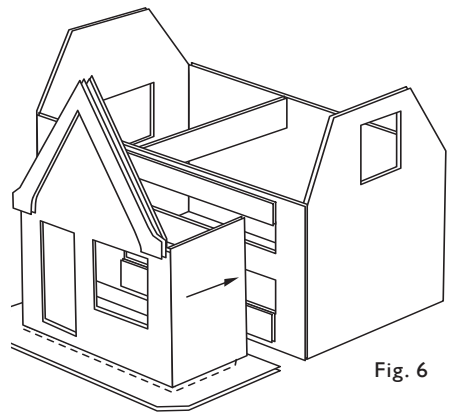

Fig. 6
1. Remove the three walls, deal with the red arrow bending cuts. Glue down the Barge Board as before, glaze the window, glue down the Tabs and add the Nameboard and Inn Sign. Bend to shape and glue around the Floor which is seated on the Tabs, before glazing and fixing Door 3 and the Window Display. Insert into the cut out portion in the Paving, flush at the back edge. Add the Steps (glued double) and fix the whole to Section 2, the inside surface of the side walls fitting against the ends of the blue tabs (Fig. 6). Now attach Roof 2, positioning it flush with the left hand wall followed by Roof 3.